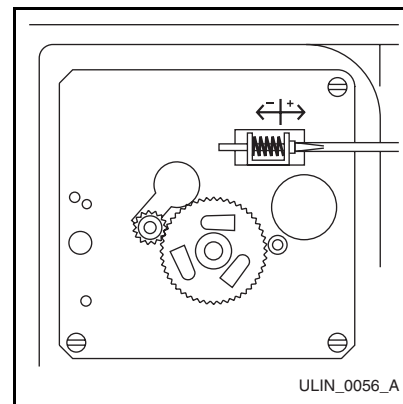

Figure 14
2. Locate the adjusting screw on the ice maker assembly control box. The adjusting screw is just below the minus (-) and plus (+) signs on the control box (**Figure 14**).